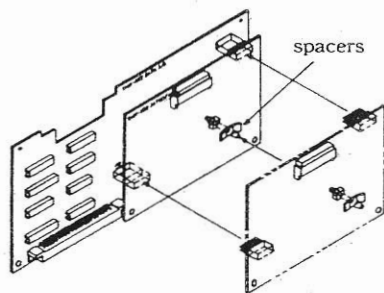

Fig.1
- (3)Using J45 (10-pin) and J46 (12-pin) on the data I/O unit and P45 and P46 on the interface unit, connect these two PCBs. In doing so, do not forget to fix spacers (plastic). (See Fig. 1.)